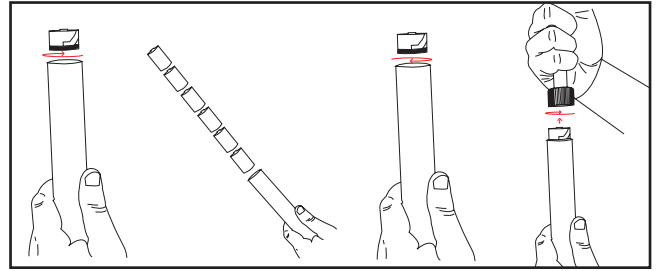

Figure 2.8.1 - Insert Batteries into the Pendant
8.1 - On Alkaline battery powered units, untwist the Pendant Cap and insert (6) or (8) D Cell Alkaline batteries, negative end first. Then replace cap. Twist the Pendant onto the Pendant Lock until you feel it lock into place. See Figure 2.8.1.